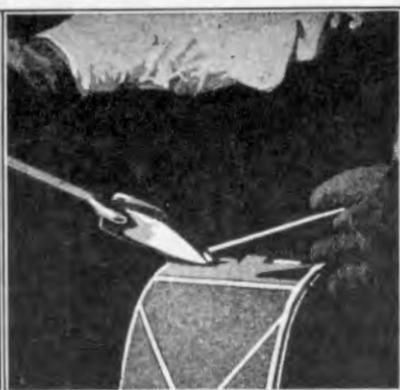

Fig. 420
**850** Assemble the bottom tank to the new core as explained in Par. 815. Set the top tank onto the core, position the top tank supports against the back edge of the fins and the top tank header and solder them to the header (See Fig. 420). Draw down the header until the top tank supports rest on the radiator support and solder them together. Clean the tubes and solder as described in Par. 830. Replace the overflow pipe as described in Pars. 844 and 845 attach the front wall (See Par. 830) and the radiator is ready to test.